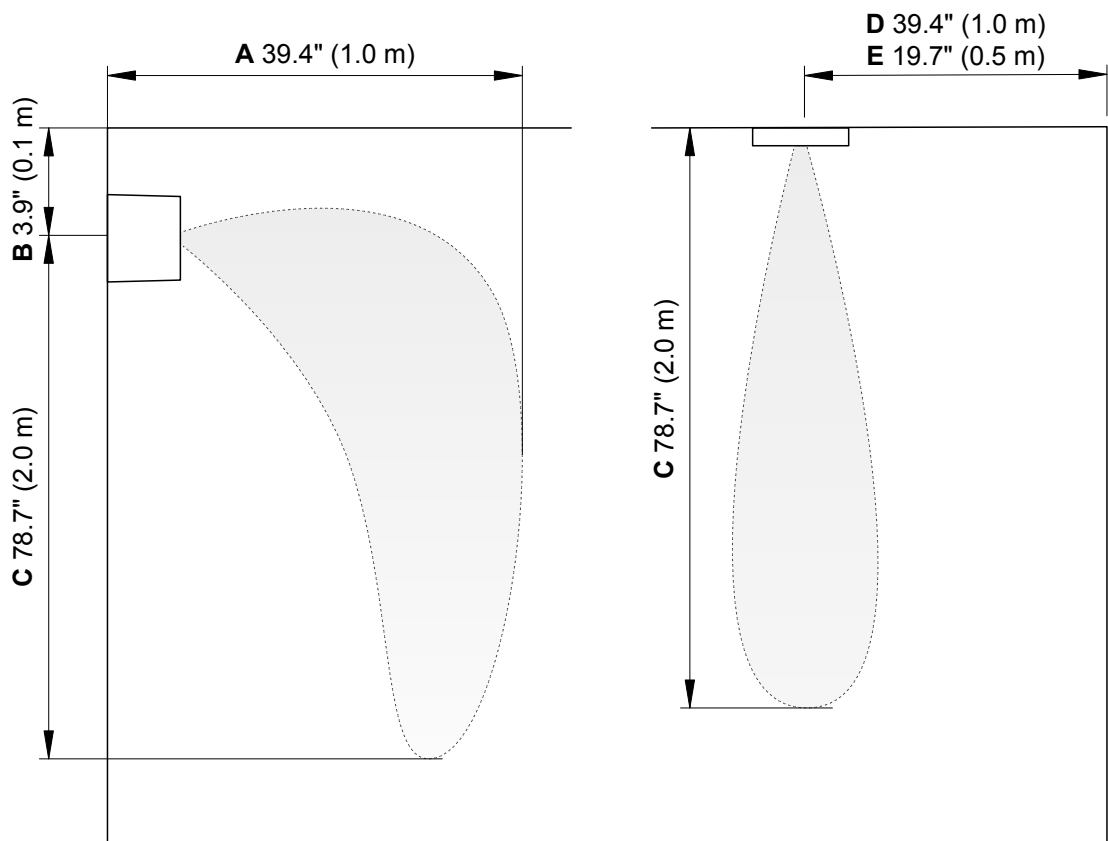

Fig. 15: Required minimum distances in the positioning of spray heads
- The spray heads must be positioned so that the mist can spread freely in the room and is not facing obstacles, such as pillars, furniture, cold outer walls, window surfaces, etc. where the humid air could condense. The required minimum distances are stated below and can be viewed in the Fig. 15.